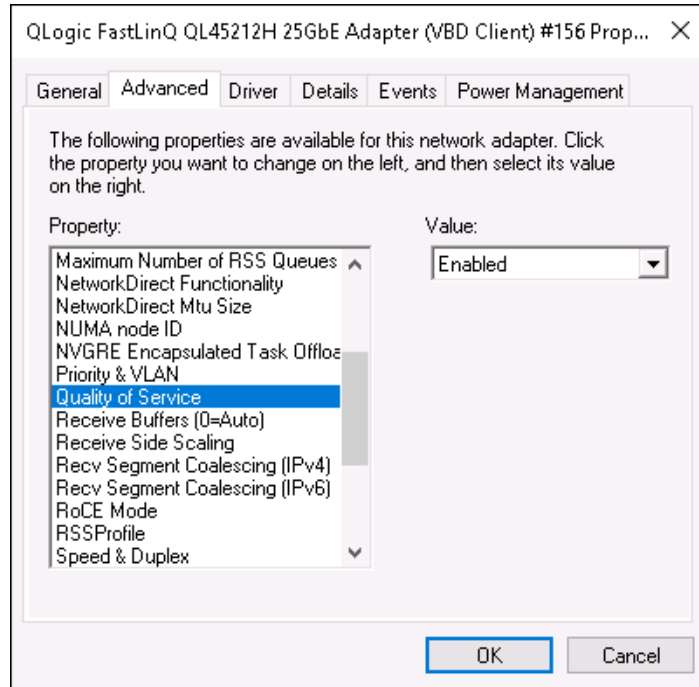

Figure 9-9. Advanced Properties: Enable QoS
- b. On the adapter's Advanced Properties page (Figure 9-9) under **Property**, select **Quality of Service**, and then set the value to **Enabled**.